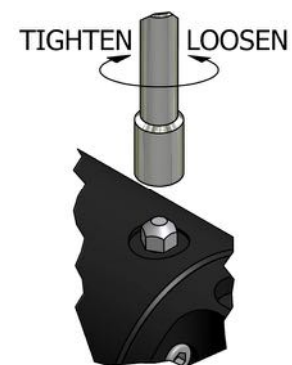

Figure .5
- a. Unscrew the Needle Regulation Nut Blocking Screw by turning it anti-clockwise as show the **Figure .5**.